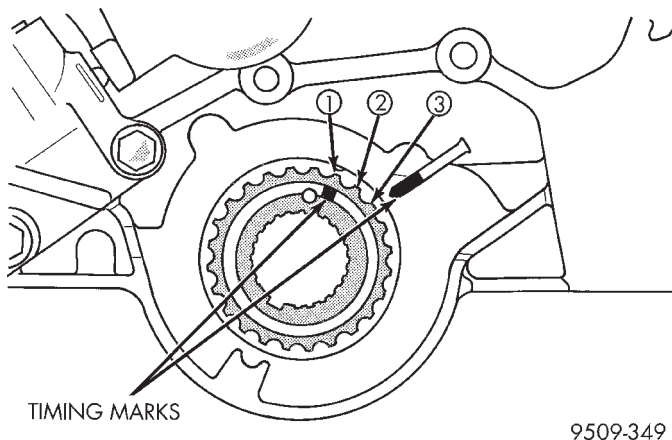

Fig. 64 Crankshaft Sprocket Timing
(1) Set crankshaft sprocket to TDC by aligning the sprocket mark with the mark on the oil pump housing. Then rotate crankshaft 3 notches before TDC (Fig. 64).